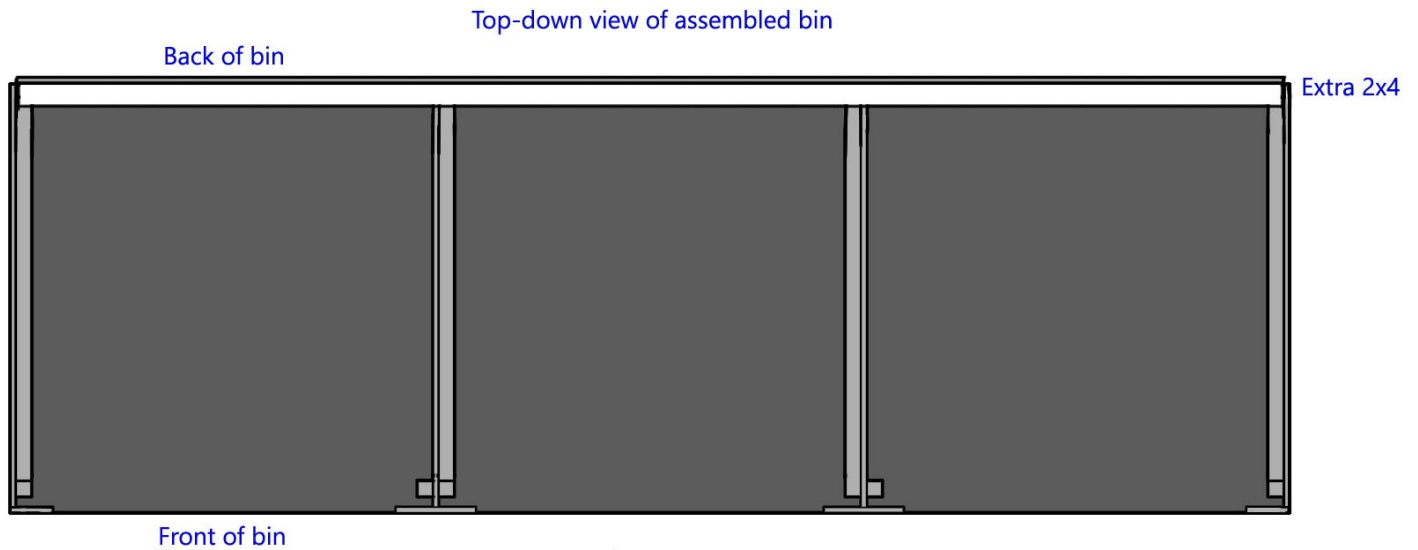

Figure 3
- E) Attach the extra 120" 2x4 horizontally on the top back edge of the bin, as in Figure 3. This will add strength and help keep the stalls from warping when full. *Note: to fully prevent warping it may be advisable to add a detachable chain to the front of the stalls as well, which can be fastened when the stalls are not being added to, stirred, or emptied.*